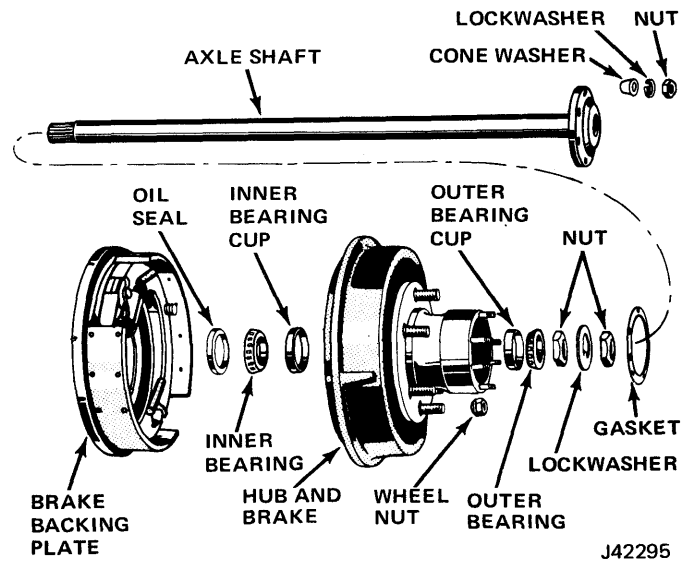

Fig. 9-59 Rear Wheel Attaching Parts—Full-Floating Axle
- (1) Remove axle shaft (fig. 9-59).
- (2) Bend lip of lockwasher and remove locknut and lockwasher.
- (3) Raise vehicle.
- (4) Rotate wheel and tighten adjusting nut with Tool J-25106 to 50 foot-pounds torque. Back off nut about 1/6-turn or until wheel rotates freely without lateral shake.